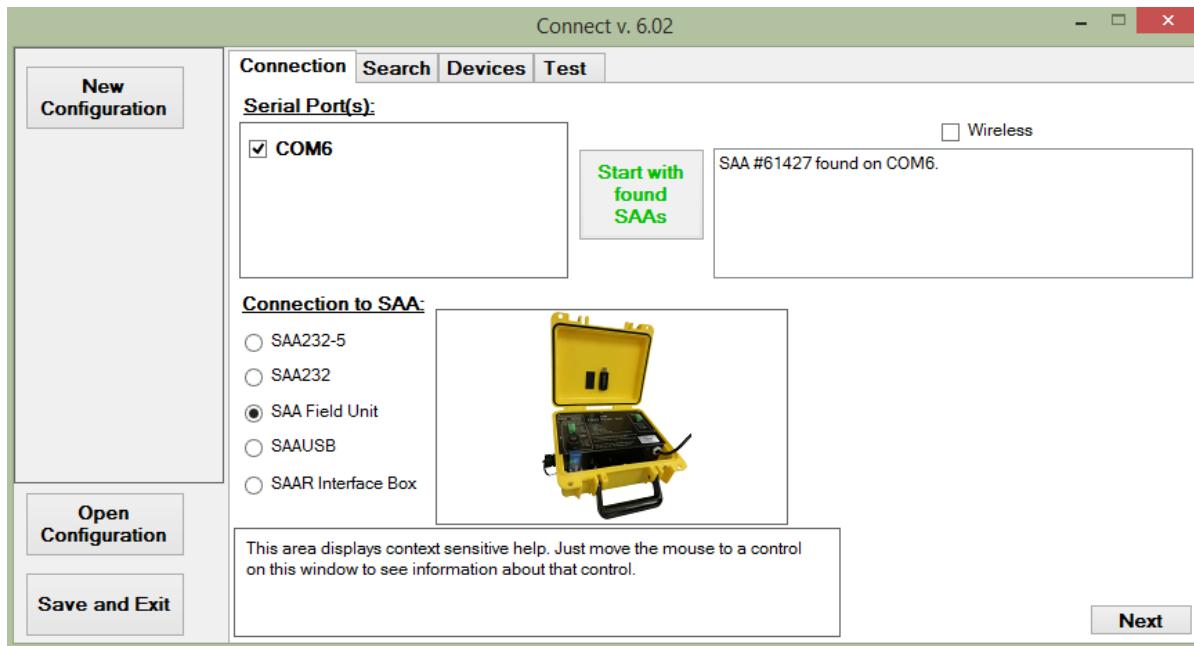

Figure 6.5: SAAREcorder 'Connection' window with the SAAFPU selected.
4. Click the 'SAAFPU' choice under the 'Connection' tab, the window should appear as it is in **Figure 6.5**. Click the Serial Port that the SAA(s) is/are connected to.